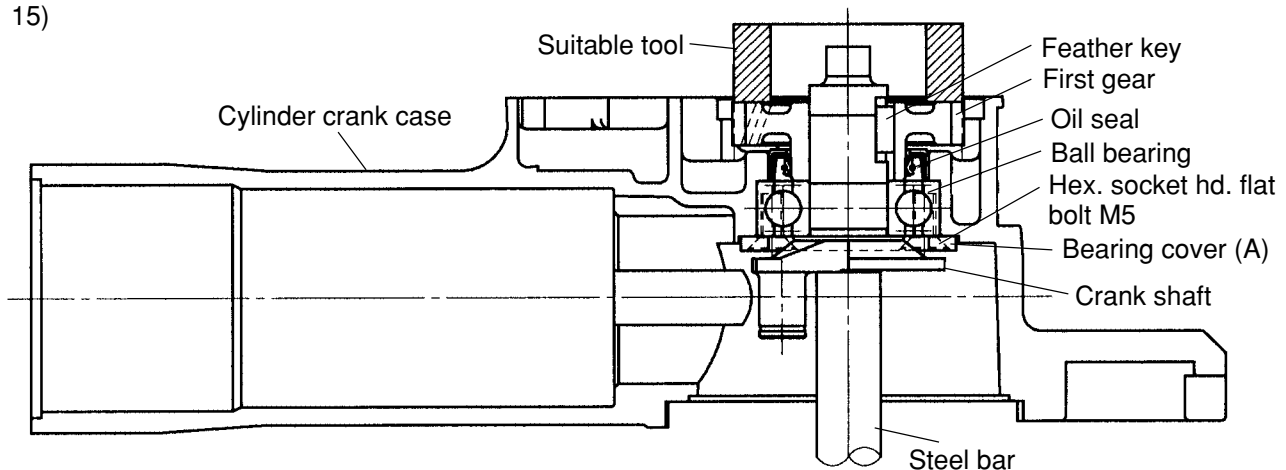

Fig. 15
Press-fit the Ball Bearing 6203DDCMPS2L [46] in the Cylinder Crank Case [48] and fix Bearing Cover (A) [45] with the two Seal Lock Hex. Socket Flat Hd. Bolts M5 x 12 [44]. Press-fit the Crank Shaft [42]. Then mount the Oil Seal [47]. Put the Feather Key 4 x 4 x 10 [43] into the groove of the Crank Shaft [42] and press-fit the First Gear [53] with a suitable tool while holding the flat portion of the Crank Shaft [42] with a steel bar. Before press-fitting, make sure that the Feather Key 4 x 4 x 10 [43] fits in the key groove of the First Gear [53]. (Fig. 15)